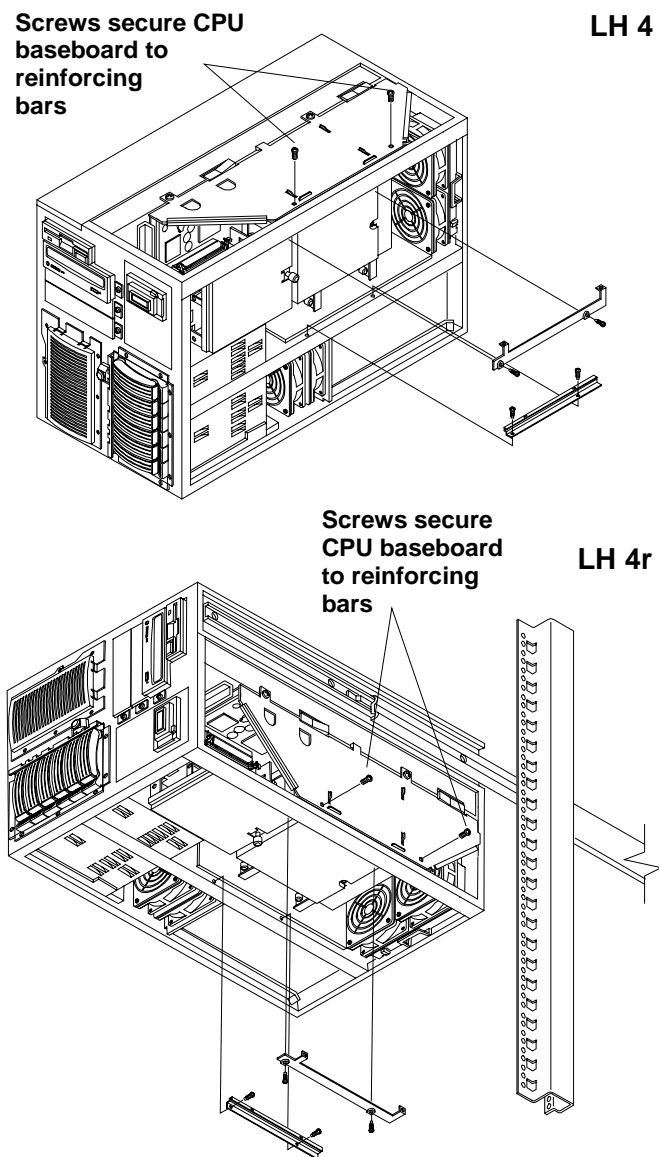

Figure 3-8. Installing the Chassis Reinforcement Bars
Insert the chassis reinforcement bars next to the CPU baseboard, as shown in Figure 3-8. There are four Torx thumbscrews that secure the two bars to the chassis, and two Torx thumbscrews that connect the CPU baseboard to the top chassis reinforcement bar.
2. Raise the ejection levers into a vertical position, as shown in Figure 3-8. Slide the CPU baseboard into place. In the LH 4 (pedestal) configuration, lower it from the top of the LH 4. In the LH 4r (rack) configuration, slide it in gently from the side.